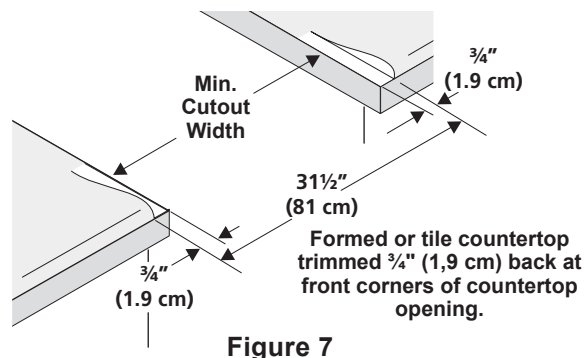

Figure 7
- **Formed front-edged countertops** must have molded edge shaved flat 3/4" (1,9 cm) from each front corner of opening (Figure 7).
- **Tile countertops** may need trim cut back 3/4" (1,9 cm) from each front corner and/or rounded edge flattened (Figure 7).